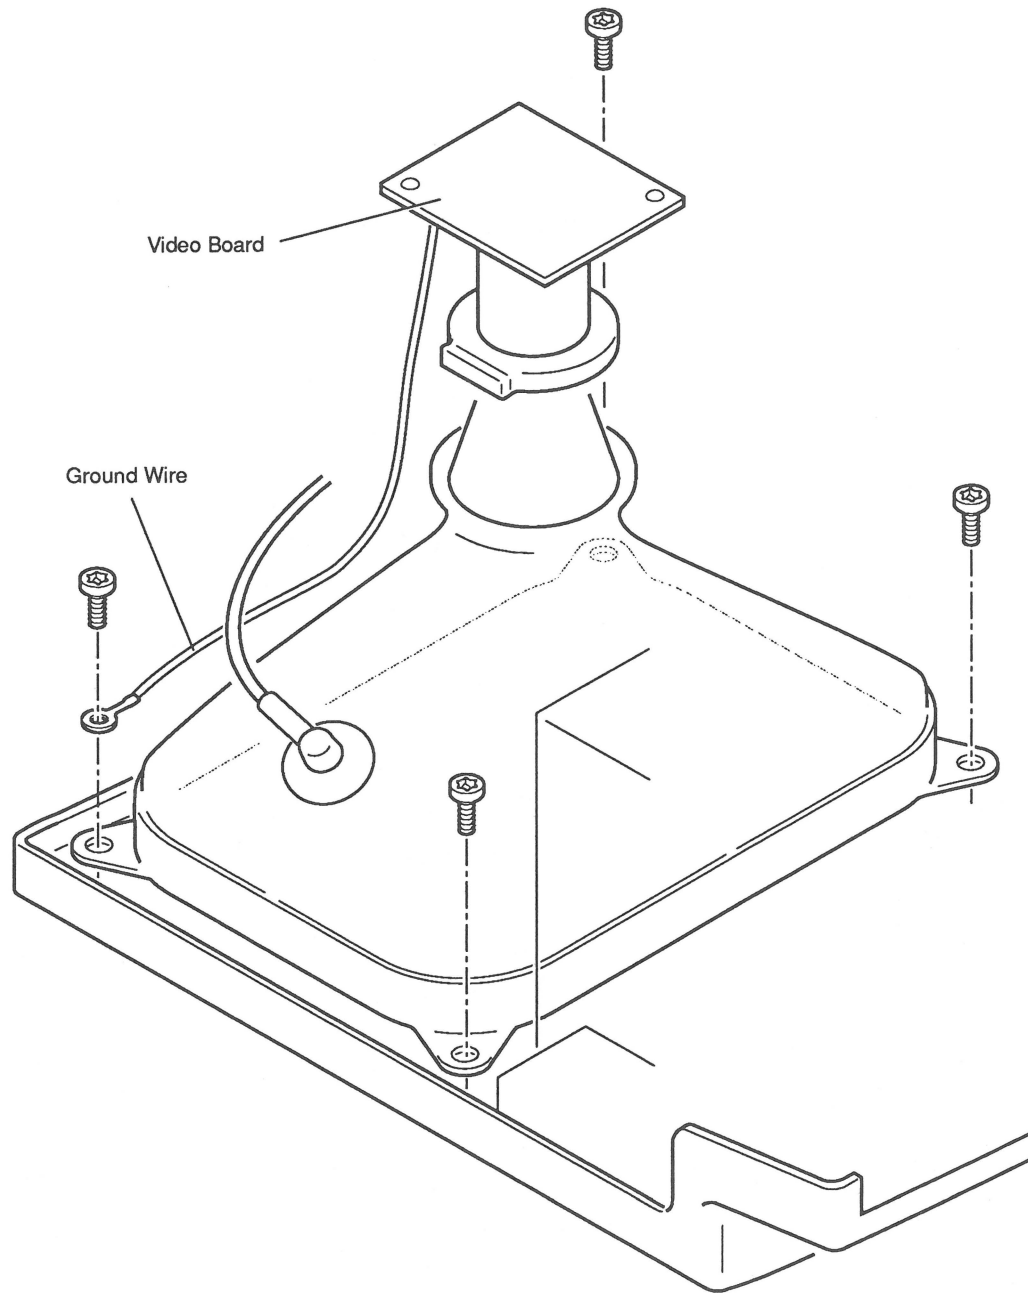

Figure 2-12 Cathode-Ray Tube (CRT)
Refer to **Figure 2-12** when removing and replacing the CRT.
2. Place the CRT face-down in the bezel, with the anode aperture on your left, as shown in **Figure 2-12**.